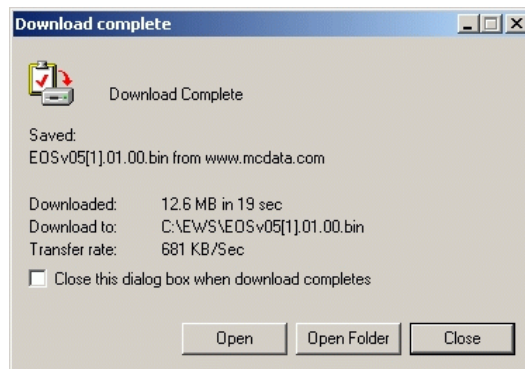

Figure 4-61 Download Complete Dialog Box
- k. A *Download* dialog box displays, showing the estimated time remaining to complete the download process. When the process finishes, the dialog box changes to a *Download complete* dialog box (Figure 4-61).